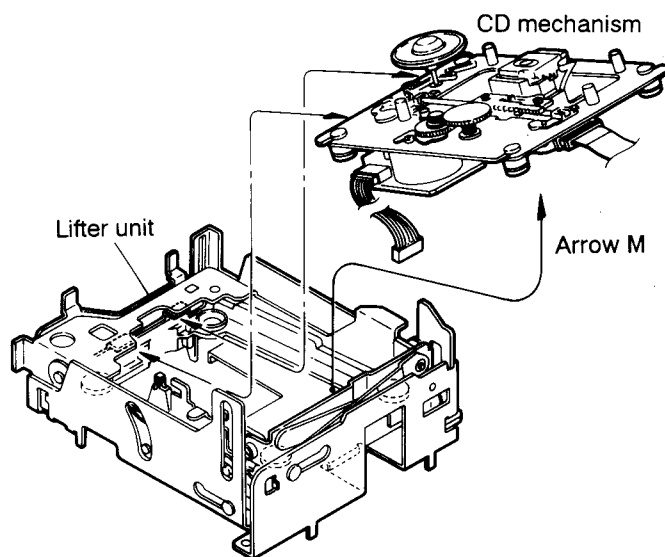

Fig. 2-18
2. By raising the CD mechanism assembly in the arrow direction (M), remove the assembly from the lifter unit (Fig. 2-18).